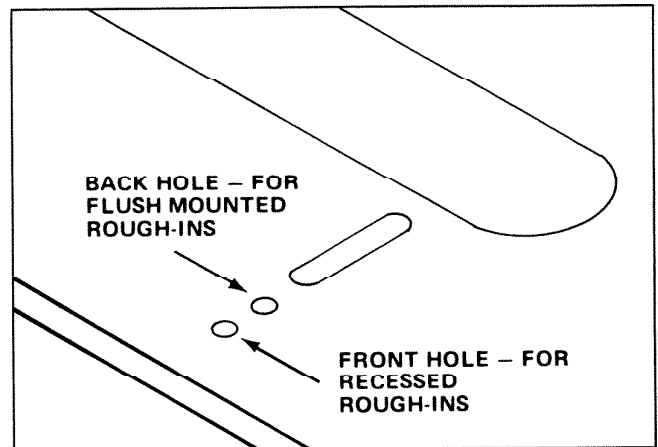

FIGURE 3
1. For rough-in frames which are recessed into the wall opening. Insert two No. 6 x 3/8" screws (provided) into the front two holes in the rough-in frame. Do not completely tighten screws. See Figure 3.
2. For rough-in frames which are mounted flush with the wall. Insert two No. 6 x 3/8" screws (provided) into the back two holes in the rough-in frame. Do not completely tighten screws. See Figure 3.